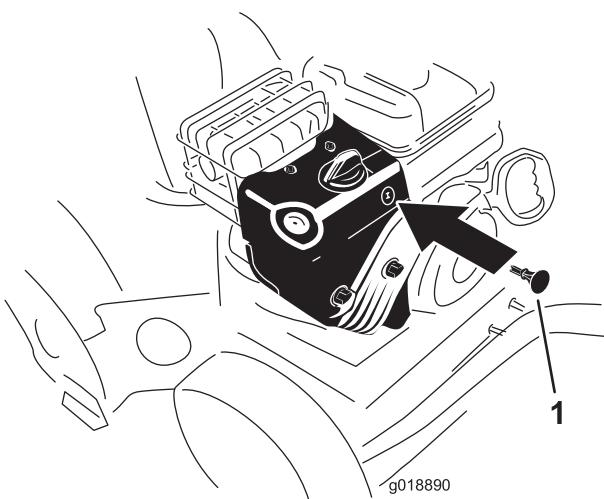

Figure 23
3. Insert the ignition key (Figure 23).